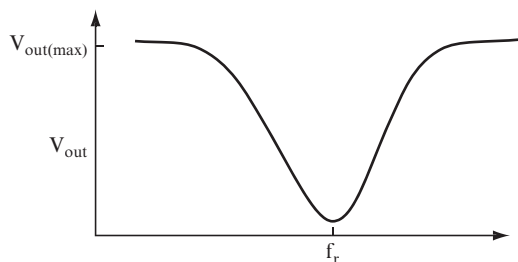

FIGURE 7.21
The same principles and equations apply to the output curve for a circuit that blocks a band of frequencies around the resonance frequency, as is the case with the curve shown in Figure 7.21.
- A. What points on the curve shown in Figure 7.21 would you use to determine the circuit's bandwidth? _____